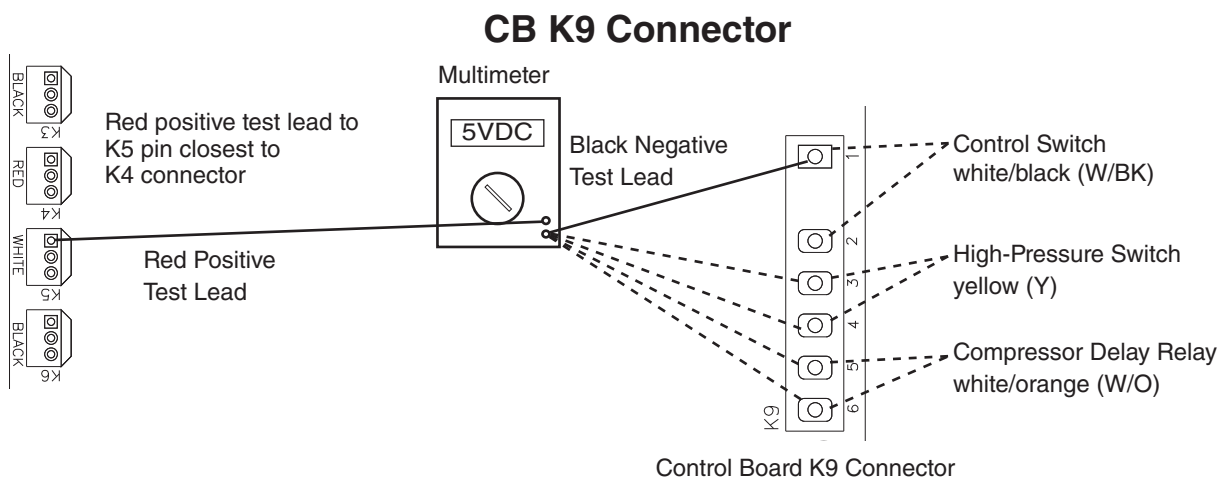

Fig. 1
- 2) Move the power switch to the "ON" position and move the control switch to the "ICE" position. The "POWER OK" LED turns on. **Diagnosis "POWER OK" LED Off:** Check for 115VAC at control transformer brown (BR) wire to neutral (W). If 115VAC is not present, check the power switch and breaker. If 115VAC is present, check for 24VAC at control transformer red (R) wire to neutral (LBU). If 24VAC is not present, check control transformer continuity. Replace as needed. If 24VAC is present, check 24VAC 1A fuse. If fuse is good, check for 24VAC at CB K8 #1 (W/R) to CB K8 #2 (LBU). If 24VAC is present and "POWER OK" LED is off, replace CB.
3) **CB 5VDC Output:** Control Switch, High-Pressure Switch, Compressor Delay Relay, and Float Switch. When checking 5VDC voltage, always place the red positive test lead from the multimeter to CB K5 pin closest to CB K4 connector. See Fig. 1. Then place the black negative test lead from the multimeter to the corresponding pin to complete the 5VDC check. If the icemaker is in alarm (beeping), see "III.B. LED Lights and Alarm Safeties."
- b. **High-Pressure Switch:** When the high-pressure switch is closed, 0VDC is present at CB K5 pin closest to CB K4 connector to CB K9 #3 (Y) and CB K9 #4 (Y). If 0VDC is not present and high-pressure switch is closed, replace CB. If high-pressure switch is open, CB sounds a 3-beep alarm. See, "III.B. LED Lights and Alarm Safeties."